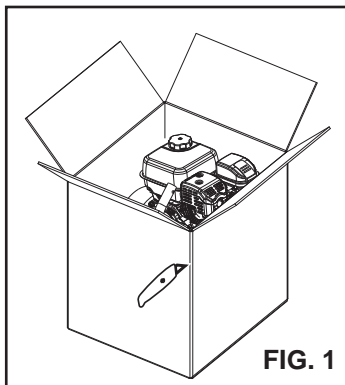

FIG. 1
1. Locate and remove all loose parts from the carton. (Fig. 1)